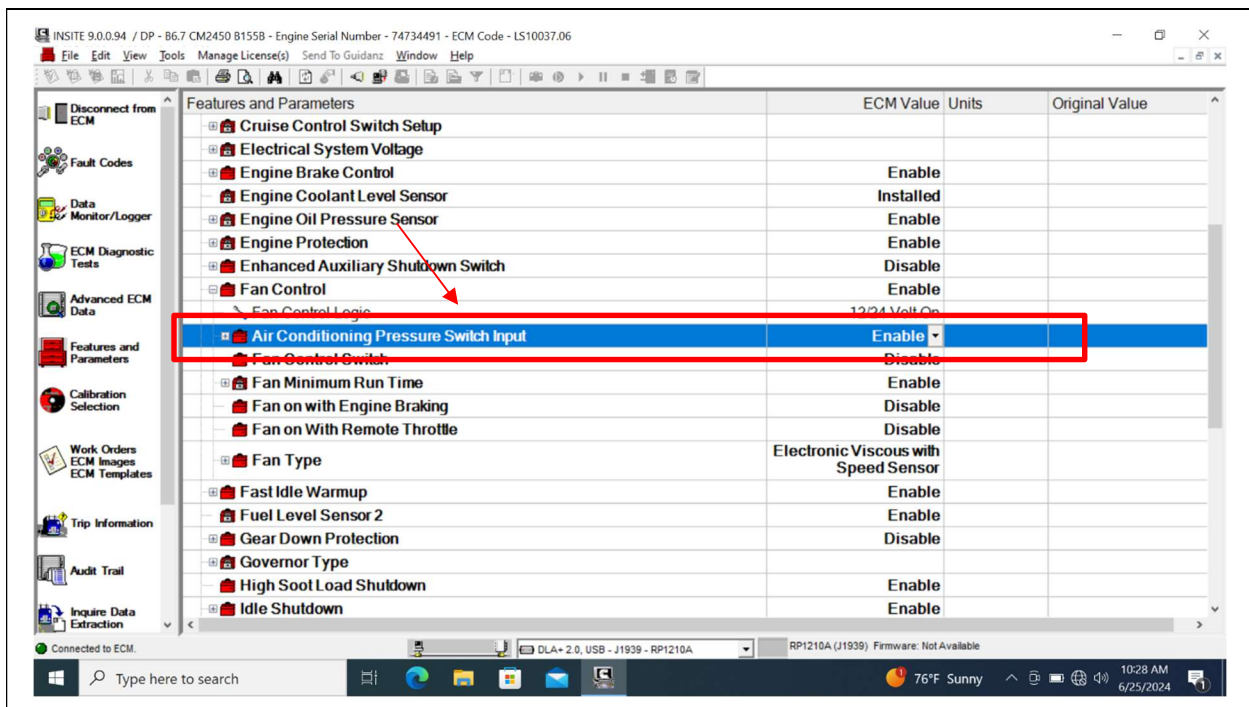

Figure 4
6. Select **Air Conditioning Pressure Switch Input**. (See Figure 4.)